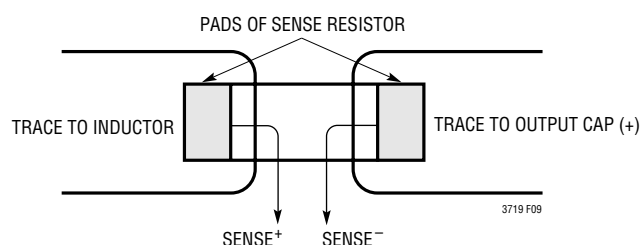

Figure 9. Proper Current Sense Connections
3) Are the $SENSE^-$ and $SENSE^+$ leads routed together with minimum PC trace spacing? The filter capacitors between $SENSE^+$ and $SENSE^-$ pin pairs should be as close as possible to the LTC3719. Ensure accurate current sensing with Kelvin connections at the current sense resistor. See Figure 9.